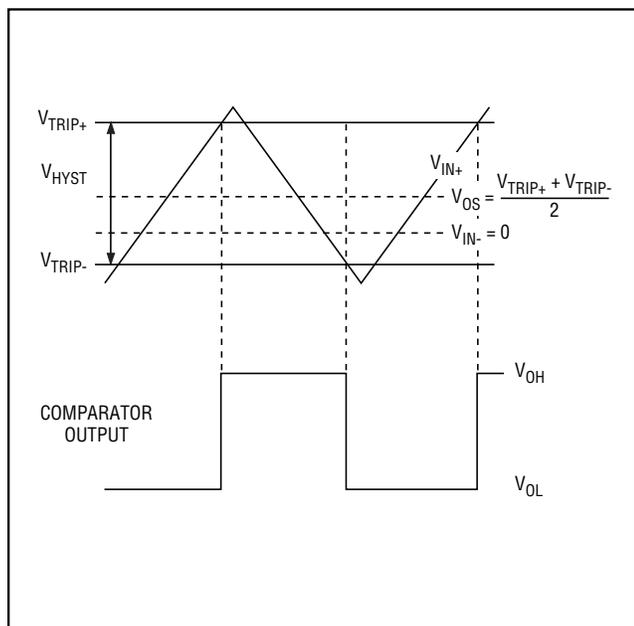

Figure 1. Input and Output Waveform, Noninverting Input Varied
**Note 2:** The input-referred trip points are the extremities of the differential input voltage required to make the comparator output change state. The difference between the upper and lower trip points is equal to the width of the input-referred hysteresis zone (see Figure 1).
**Note 3:** VOS is defined as the center of the input-referred hysteresis zone (see Figure 1).
The hysteresis in a comparator creates two trip points: one for the rising input voltage and one for the falling input voltage (Figure 1). The difference between the trip points is the hysteresis. When the comparator's input voltages are equal, the hysteresis effectively causes one comparator input voltage to move quickly past the other, thus taking the input out of the region where oscillation occurs. Standard comparators require hysteresis to be added with external resistors. The MAX941/MAX942/MAX944's fixed internal hysteresis
Figure 1 illustrates the case where IN- is fixed and IN+ is varied. If the inputs were reversed, the figure would look the same, except the output would be inverted.